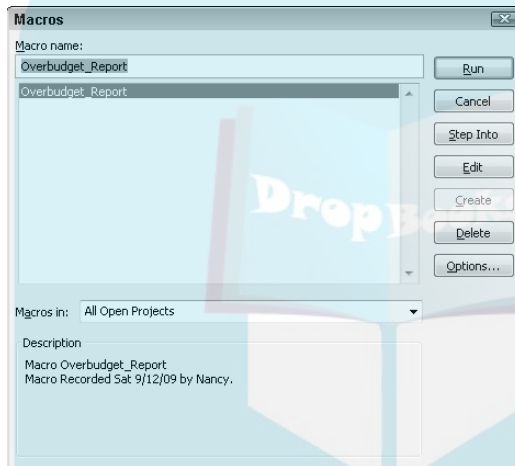

Figure 17-9: The Macros dialog box lists all available macros in any open projects.
2. Choose a macro in the list of macros shown in the **Macros** dialog box, as shown in **Figure 17-9**.